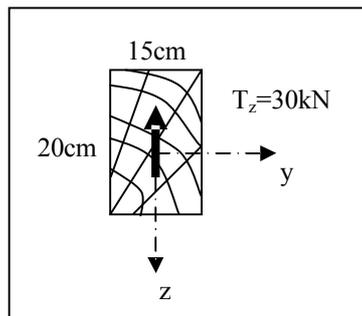

Fig.2
03) The maximum value of the shear stress  $t_{\text{max}}$  for the section represented in Fig. 2 is: